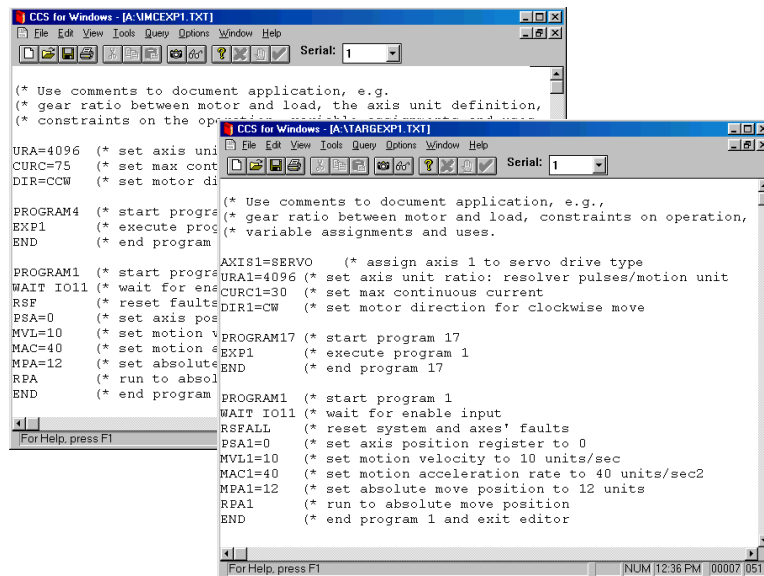

Figure 3.7: ASCII File Editor Windows Displaying Example Application Programs for the IMC/IMJ (left) and Target (right)
Figure 3.7 shows simple example application programs for the IMC/IMJ and the Target. Both programs will execute a simple motion, i.e., set the axis position register to 0 and run a single axis 12 units in the forward direction.
You may want to copy either of the application program example from figure 3.7—or create your own simple example that you can send to the controller and run later in this chapter as those sections are introduced. Click to place your cursor in the ASCII file editor window and use the following procedure to create an application program .txt file.
Using the example application program from figure 3.7, we'll run the application program from the CCS Terminal window:
2. Select the name of the application program's .txt file (this example uses the *imcexp1.txt* example from figure 3.7)